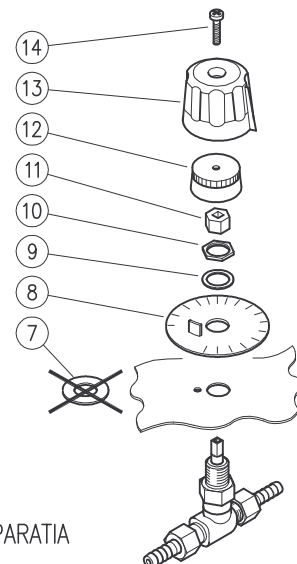

FIG. 2
- 3) ELIMINATE THE SPACER POS.7 (SEE FIG.2)
- 4) INSERT ON THE INSIDE OF THE MACHINE BULKHEAD THE REMAINING PART OF THE VALVE. (SEE FIG.2)